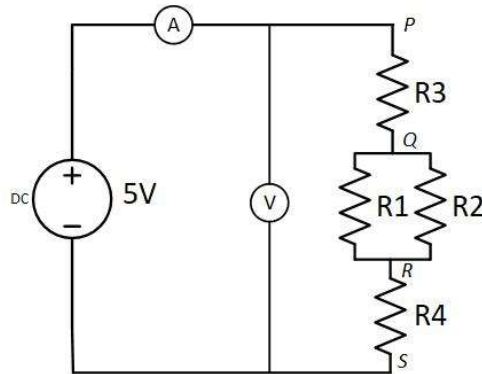

Figure 4: Series parallel series circuit
- c. Close CWK1b.plecs and open CWK1c.plecs. The circuit here has the structure shown in Figure 4. R1, R2 and R3 should have the same values as in section II.a (check them). The value of R4 is not correct, as you need to calculate it.
An important point to note here is that we can use three terms to define voltages within this circuit: voltage, potential difference and potential. Voltage and potential difference are essentially the same – they define the voltage between two specific points in the circuit and these must be specified eg V_{PQ} is the voltage (potential difference) across R3 or between nodes P and Q in Figure 4. Similarly V_{RS} is the voltage (potential difference) between nodes R and S. Note also the first stated node is usually defined as the positive node.
The term "potential" usually means that the voltage is measured with respect to the circuit ground point (in this case the negative terminal of the supply or Node S in Figure 4). We will explore this in the next section.